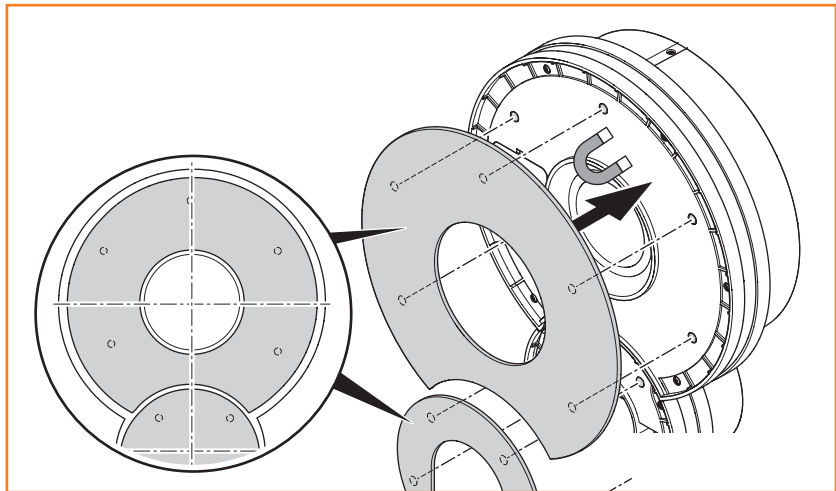

Fig. 3 Attaching the covers to the housing
► Place each cover on the housing so that the magnets of the cover and the housing are exactly on top of each other (see Fig. 3).